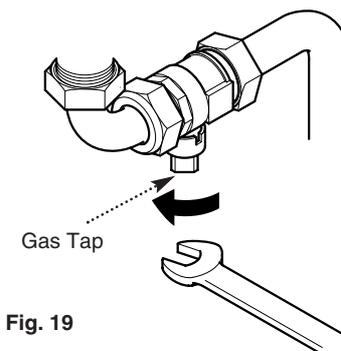

Fig. 19
2. Using a suitable open ended spanner or screwdriver turn the square on the gas tap to the left to isolate the gas supply at the boiler (Fig. 19).